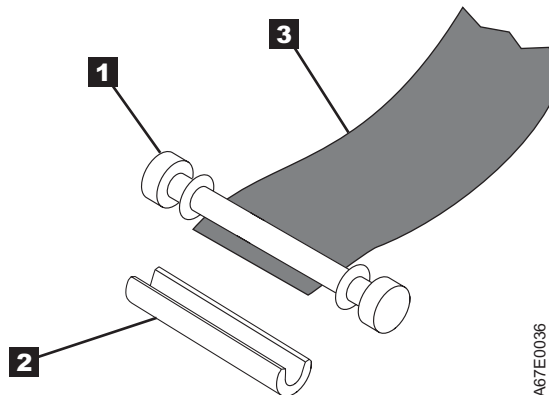

Figure 126. Removing the C-clip from the leader pin. Use your fingers to push the C-clip from the leader pin.
5. On the leader pin ( **1** in Figure 126), locate the open side of the C-clip **2** . The C-clip is a small black part that secures the tape **3** to the pin.